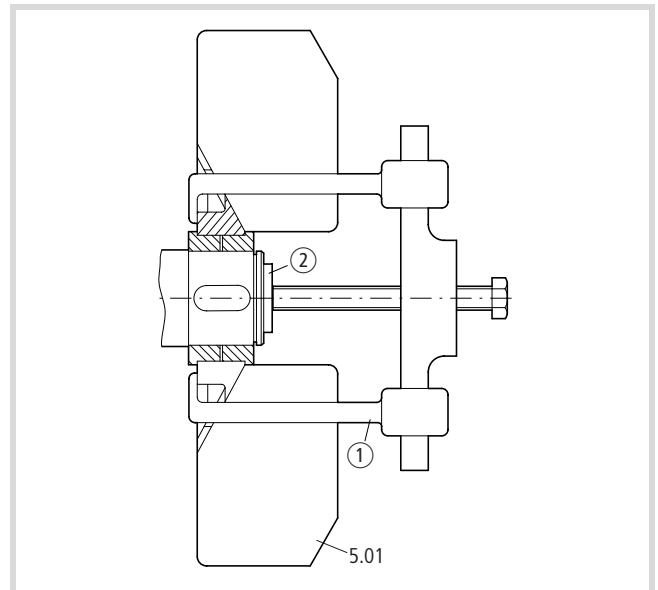

Figure 4: Removing the fan (5.01)
- ▶ Use the extractor ① to remove the fan (5.01) from the shaft. Remove small fans manually (➔ Fig. 4).